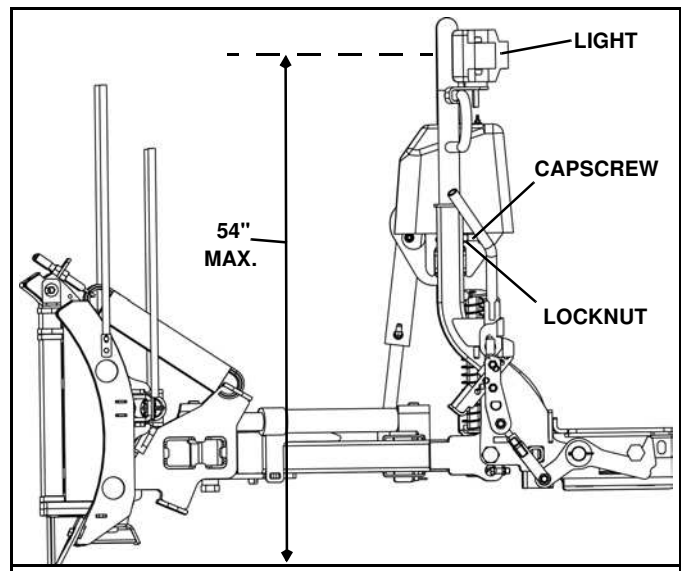

Figure 1-27
40. The height of the light bar in the LLLB is adjusted to one of three possible positions. Position the light bar so that center of the lights is 54" maximum off the ground when plow is fully lowered to the ground. The lights should clear the plow when it is fully raised. (See Figure 1-27).